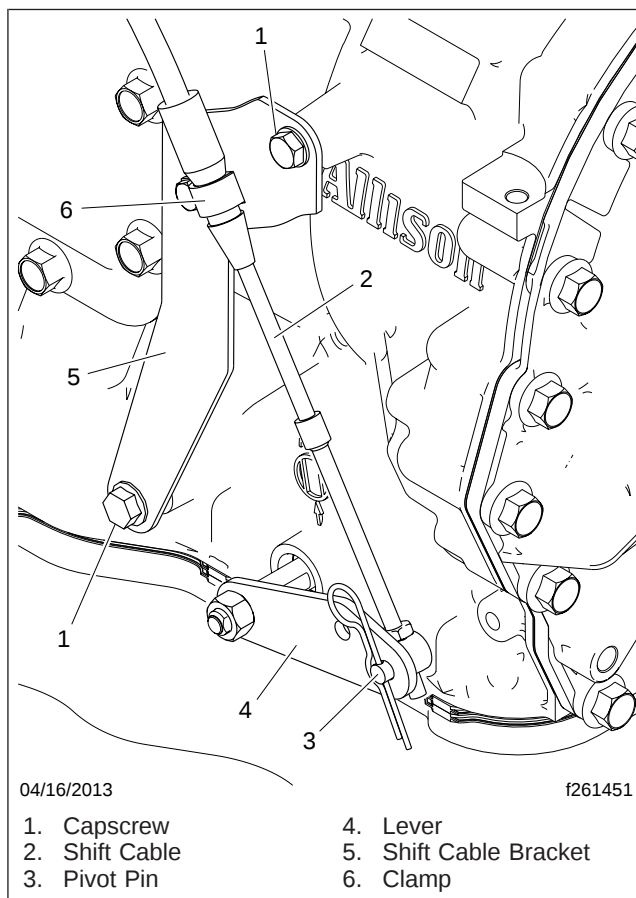

Fig. 1, Existing Shift Cable Installation
Some M2 vehicles with Allison 6-speed transmissions may produce a buzzing or chirping noise emanating from the shift lever. This usually happens when the transmission is in 6th gear, and the vehicle is moving at 50 to 55 mph (80 to 89 kph). Shifting out of 6th gear stops the noise. A shift cable isolator kit has been developed to eliminate the cause of the noise. If a noise is emanating from the shift lever or shift cable, use the procedure in this bulletin to replace the existing shift cable clamp (see Fig. 1) on the transmission with the isolator kit KPP 294201.
2. Remove the cotter pin, then remove the pivot pin and shift cable from the transmission shift lever. See Fig.1.